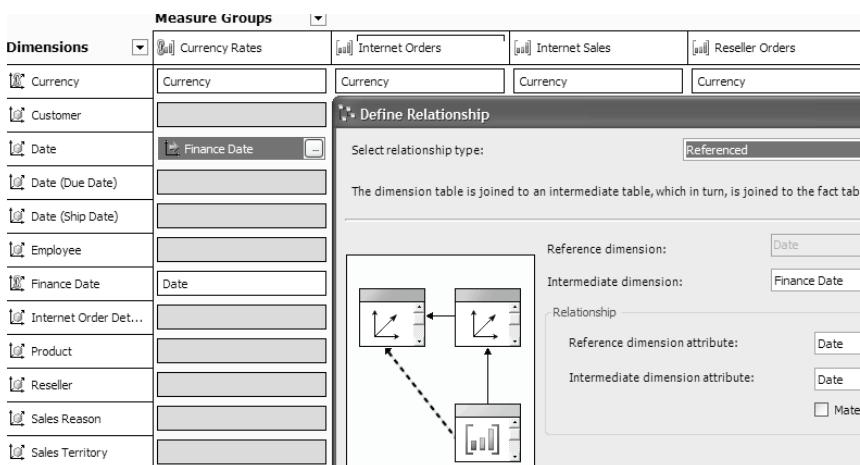

Figure 5.41 Relate a local dimension to a linked measure group by using a reference dimension.
2. Click on the ... button in the intersecting cell between the Date dimension and the Currency Rates dimension to open the Define Relationships dialog (Figure 5.41).